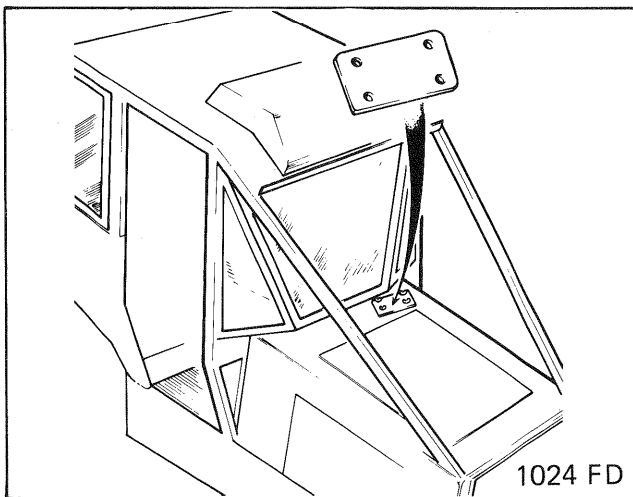

Fig. 13-2 Master Cylinder Locations
1. fill master cylinder with fluid. (refer to Fig. 13-2)